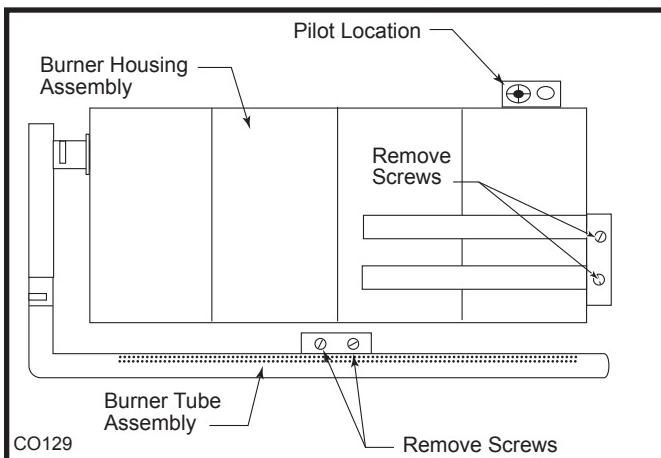

Fig. 77 Remove screws holding burner housing assembly and burner tube assembly.
- Remove the two (2) screws which secure the burner tube assembly/fettle and the two (2) screws located behind the burner tube assembly which secure the diverter. Remove the four (4) screws that secure the burner housing assembly to the base pan at the right and left end of the burner housing assembly. (Fig. 77)
1. Remove the two (2) screws which secure the burner tube assembly/fettle and the two (2) screws located behind the burner tube assembly which secure the diverter. Remove the four (4) screws that secure the burner housing assembly to the base pan at the right and left end of the burner housing assembly. (Fig. 77)